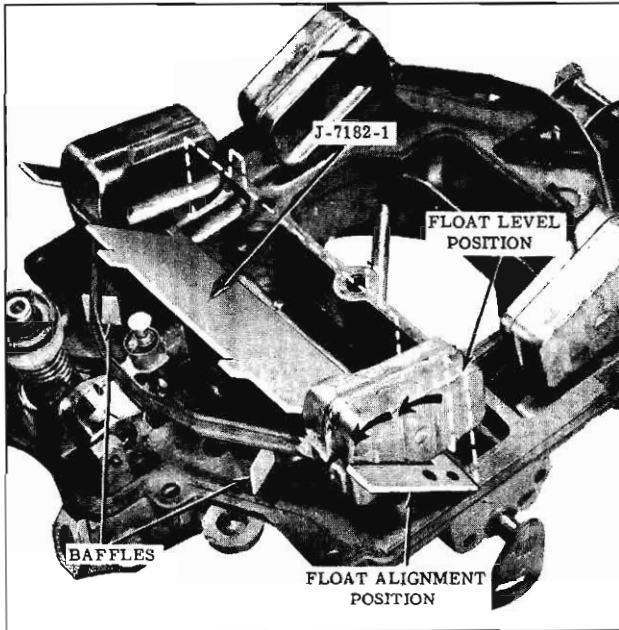

Fig. 4-17 Checking Primary Float Level and Alignment
1. With gasket in place and the air horn inverted, position gauge J-7182-1 under the primary float as shown in Fig. 4-17.
4. To check float alignment, rotate gauge as indicated in Fig. 4-17. Float pontoon should be centered in the gauge cut-out.